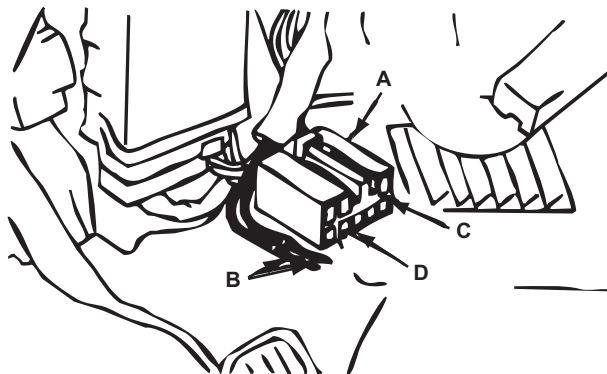

Figure 15-54 2000–04 Legacy ABS diagnosis connector location
1. Locate the ABS diagnosis connector and diagnosis terminals near the heater assembly on the driver side (Figure 15-54).